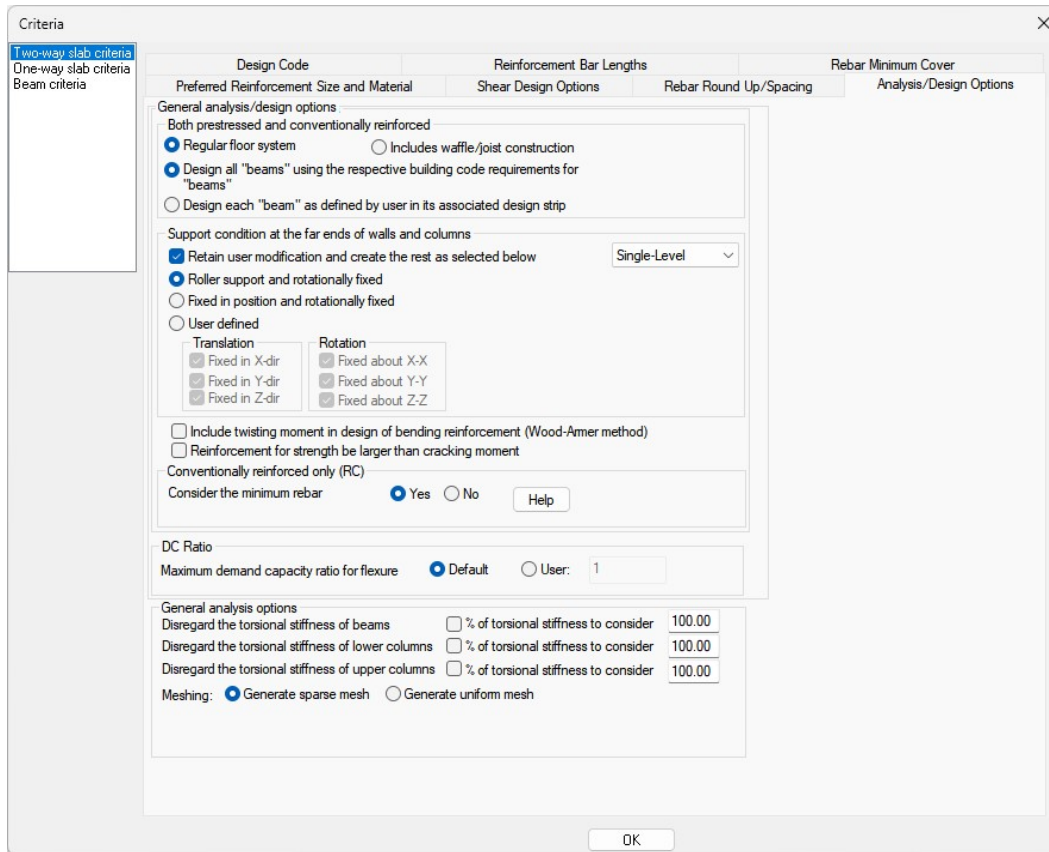

Figure 2.2-7 – Criteria: Analysis/Design Options tab
- Click on the **Analysis/Design Options** tab. This will open the window from **Figure 2.2-7**.